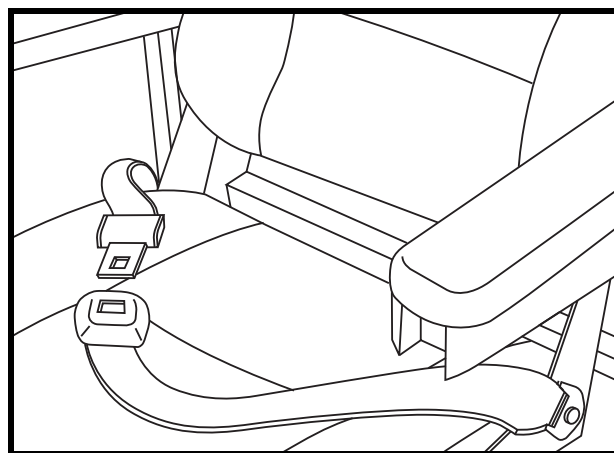

Figure 25. Positioning Belt Adjustment
Your power chair may be equipped with a positioning belt that can be adjusted for operator comfort. See figure 25. The positioning belt is designed to support the operator so that he/she does not slide down or forward in the seat. The positioning belt is not designed for use as a restraining device.
1. Once seated, insert the metal tab on one side of the belt into the plastic housing on the opposite side until you hear a click. See figure 25.